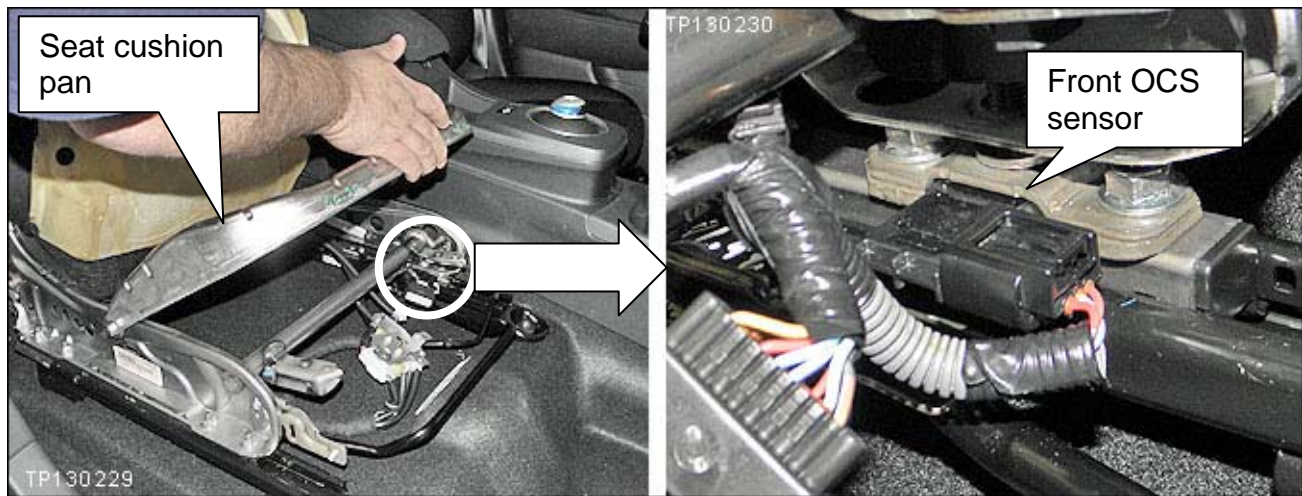

Figure 11
16. Lift the seat cushion pan and disconnect the front OCS sensor electrical connector (see Figure 11).